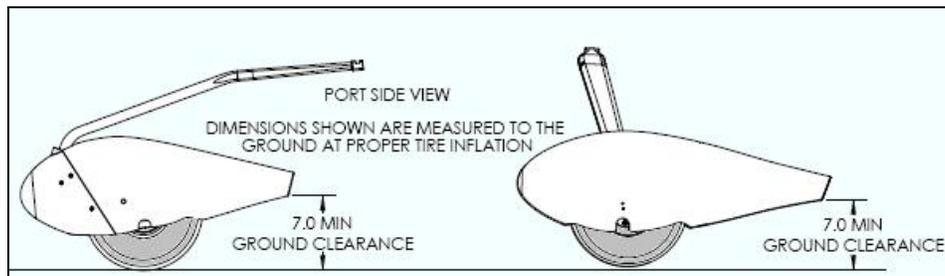

Figure 32-13 Ground Clearance
6. Verify nose wheel fairing ground clearance is a minimum of 7 inches as shown in Figure 32-13. Small adjustments can be made prior to application of final torque.